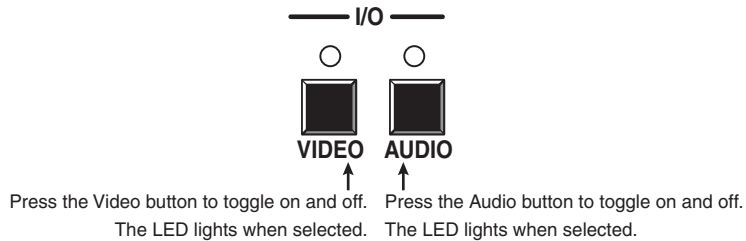

Figure 3-4 — Select video and audio
2. To select video and audio for the tie, if necessary, press and release the Video button and the Audio button until the LEDs light (figure 3-4).